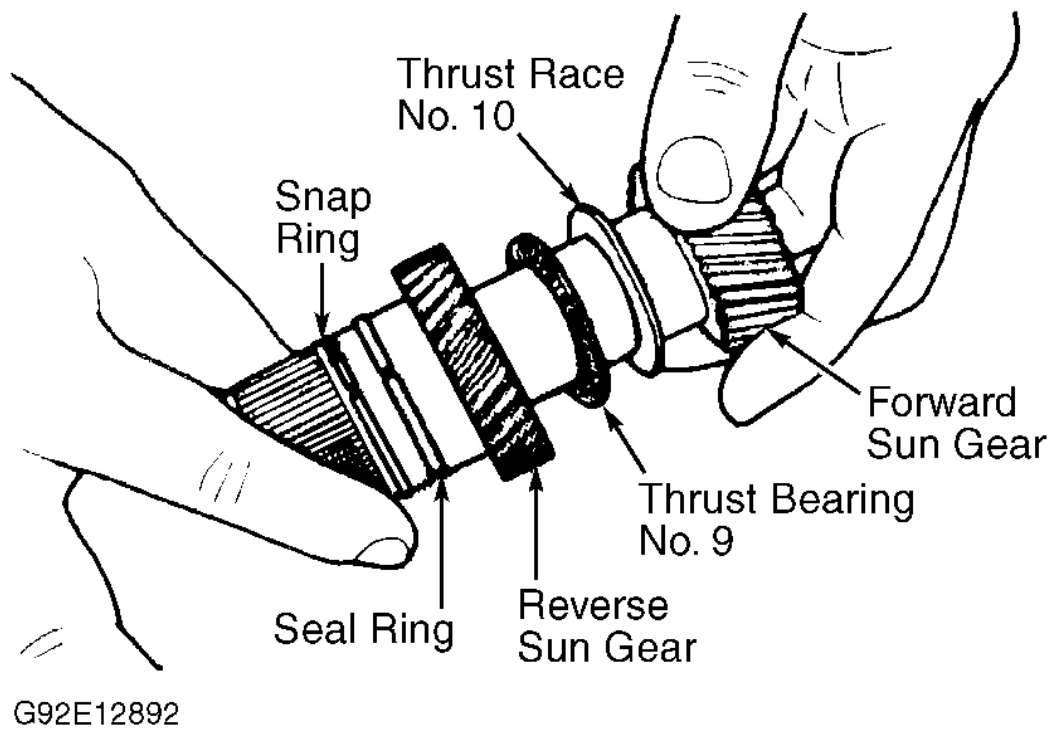

Fig. 24: Assembling Sun Gears
10. Install planetary carrier with thrust bearing No. 12 in place, in transaxle case. Assemble reverse sun gear and forward sun gear and install in planetary carrier. See **Fig. 24** . Install low and reverse brake assembly ensuring 2 new "O" rings are properly positioned on center support. See **Fig. 25** .